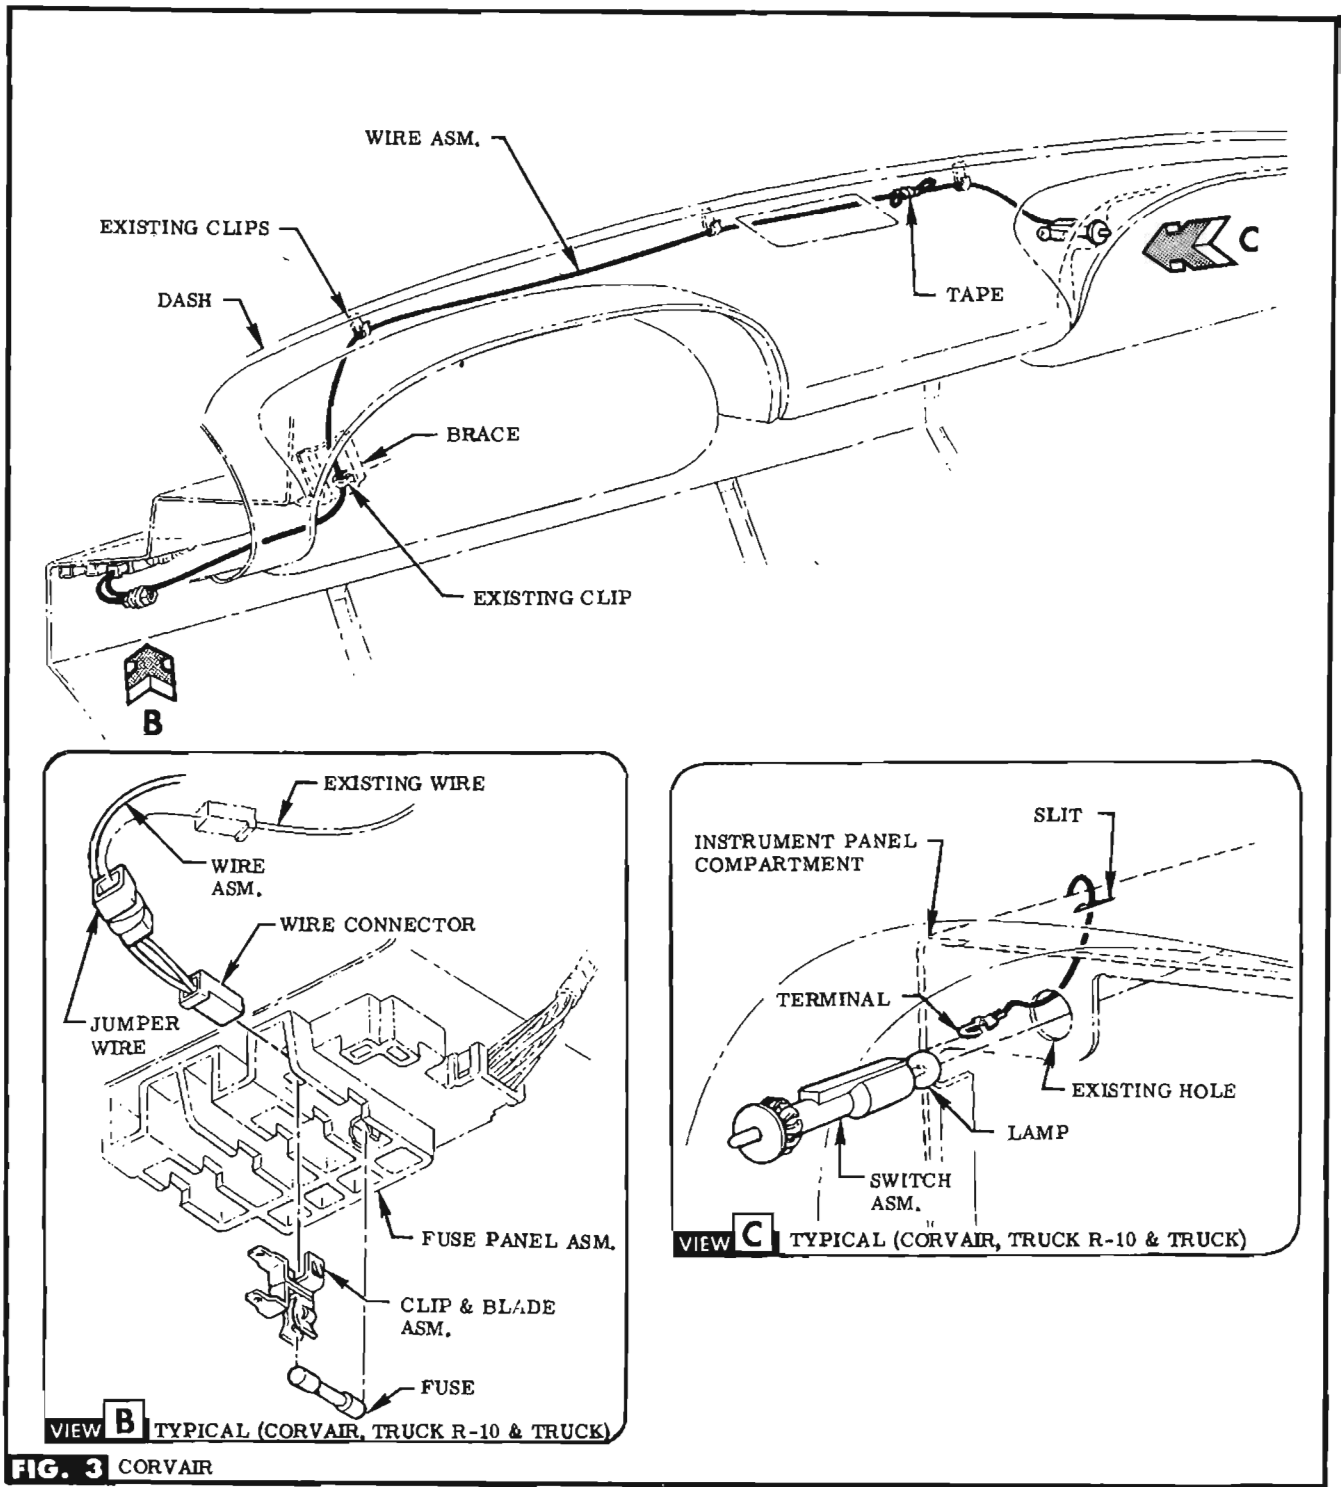

FIG. 3 CORVAIR
STEP 1 ROUTE WIRE TERMINAL THRU SLIT IN UPPER LEFT HAND CORNER OF INSTRUMENT PANEL COMPARTMENT & THRU HOLE IN UPPER LEFT SIDE OF COMPARTMENT OPENING. SEE FIG. 3 & VIEW C.
FUSE PANEL. SEE FIG. 3.
STEP 5 LOOP & TAPE EXCESS WIRE. SEE FIG. 3.
STEP 1 ROUTE WIRE TERMINAL THRU SLIT IN UPPER LEFT HAND CORNER OF INSTRUMENT PANEL COMPARTMENT & THRU HOLE IN UPPER LEFT SIDE OF COMPARTMENT OPENING. SEE FIG. 4 OR 5 & VIEW C, FIG. 3.
STEP 2 ASSEMBLE WIRE TERMINAL TO SWITCH, INSERT LAMP & PRESS SWITCH INTO POSITION, SEE FIG. 4 OR 5 & VIEW C, FIG. 3.
STEP 5 PRESS CLIP & BLADE INTO RECEPTACLE MARKED "GL BOX LP." INSERT FUSE & CONNECT WIRE. SEE VIEW B & FIG. 3. **NOTE** If receptacle is occupied, remove existing wire & connect to jumper wire.